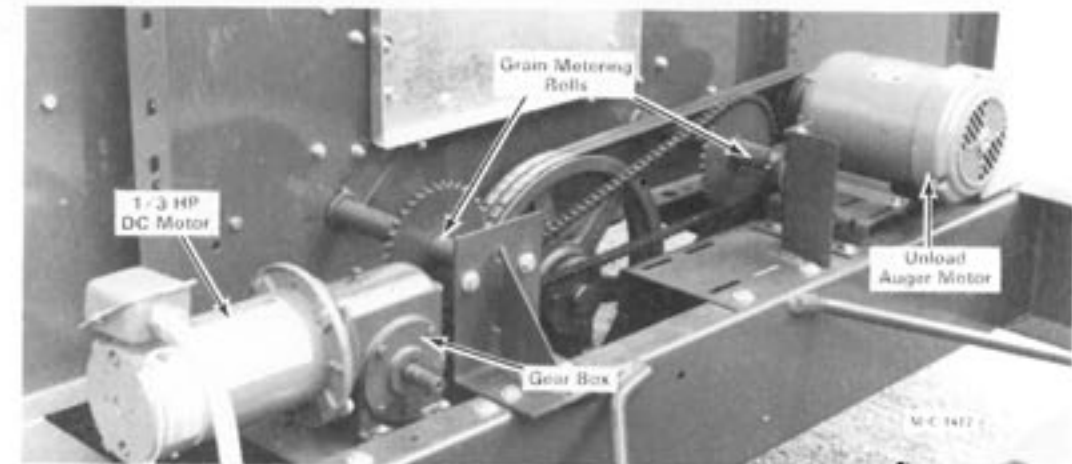

Figure 21
Operation of the Discharge System (See Figure 21)
1. Set the adjustable level auger delay, Figure 21, for time desired (.1 to 8 minutes).